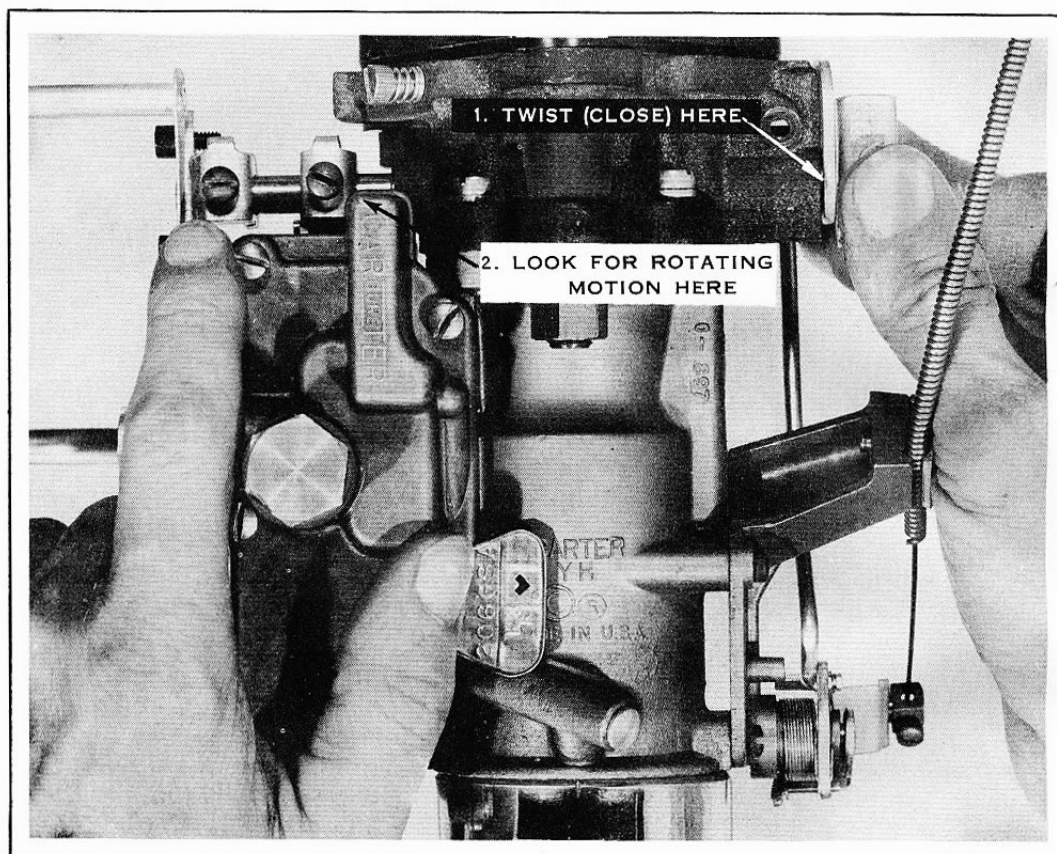

Figure 2
(1) Check the closing off of center and rear throttle valves by twisting (closing) the rear lever of rear carburetor. There should not be any visible sign of rotating motion on the front end of rear carburetor throttle shaft. See Fig. 2. Any sign of rotation is a clear indication of need for correction. NOTE: If correction is necessary; loosen Allen screws on rear of center carburetor. Hold throttle valve in rear carburetor closed and tighten Allen screws. If rotation is still visible, loosen Allen screws at front of rear carburetor. Hold the throttle valve in rear carburetor tightly closed and tighten Allen screws.
(2) Check closing of center and front throttle valves by twisting (closing) the front lever of front carburetor. There should not be any visible sign of rotating motion on the rear end of front carburetor throttle shaft. Any sign of rotation is a clear indication for need of correction. NOTE: If correction is necessary; loosen Allen screws on rear of front carburetor. Hold throttle valve in front carburetor closed and tighten Allen screws. If rotation is still visible, loosen Allen screws on front of center carburetor. Hold the